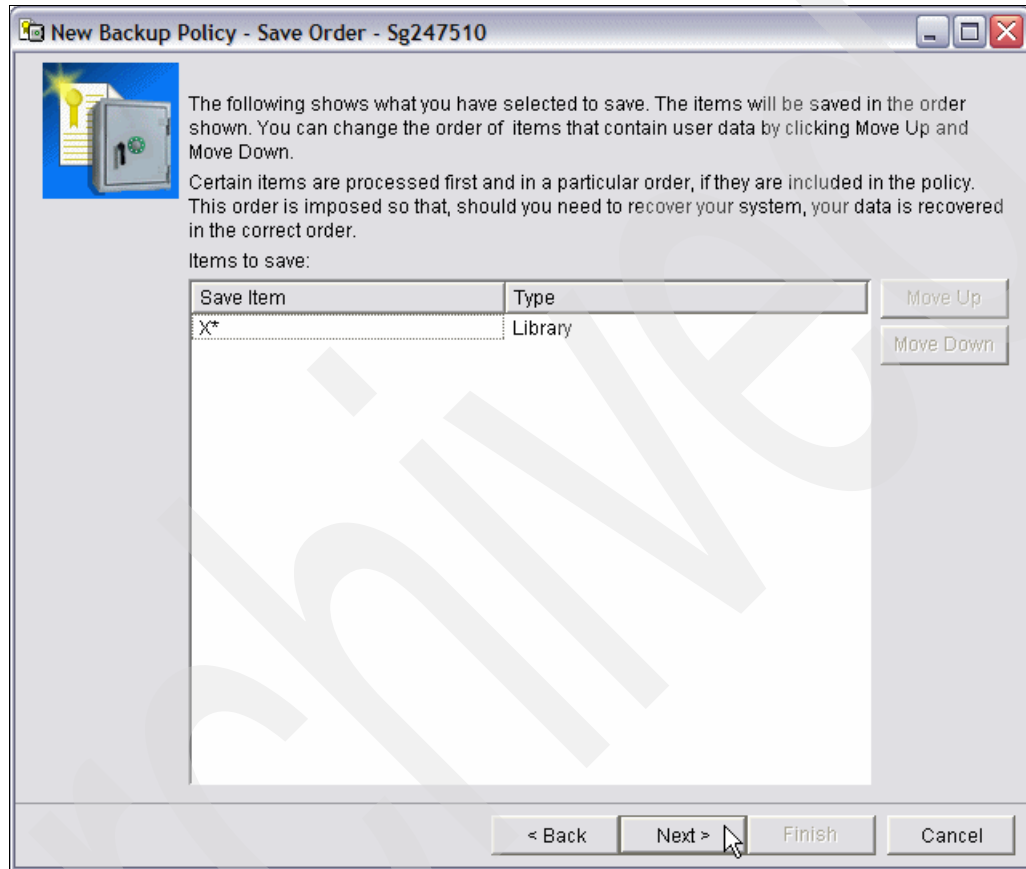

Figure 6-55 New Backup Policy - Save Order
13. The next window is shown in Figure 6-55. This is the Save Order window. We review the the objects and folders previously selected in the order they will be saved. Review the window text. You can go back and make changes or continue.